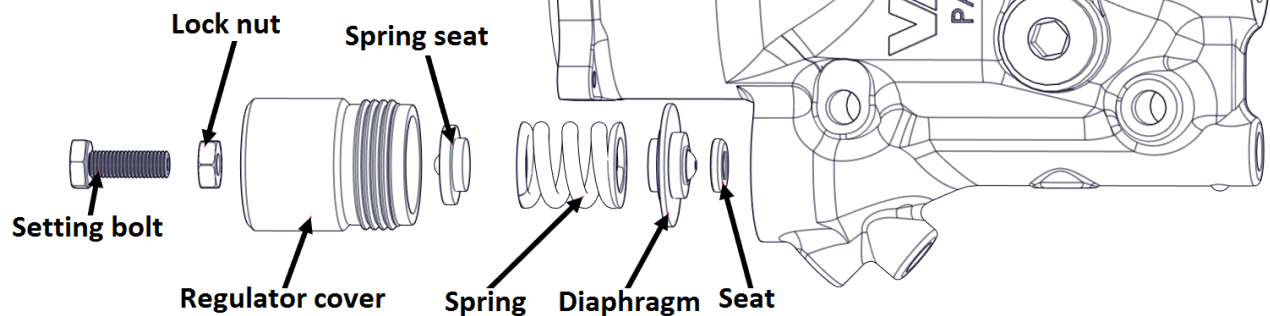

Figure 2 - Inlet Valve and Regulator
8. Install the brass spring seat onto the spring with the ball facing the regulator cover and setting bolt. (Figure 2)
9. Thread the regulator cover onto the inlet and hand tighten until it is in contact with the rubber diaphragm and tighten an additional 1/8 turn. The innermost thread on the regulator cover should be flush with the inlet. (Figure 2 inset)